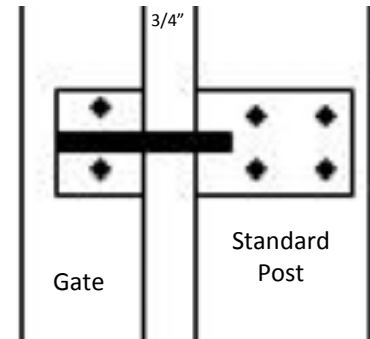

Fig. 16
Step 6. Using the eight 8-3/4" screws provided attach your latch as marked, and firmly fasten into place (Fig. 16).